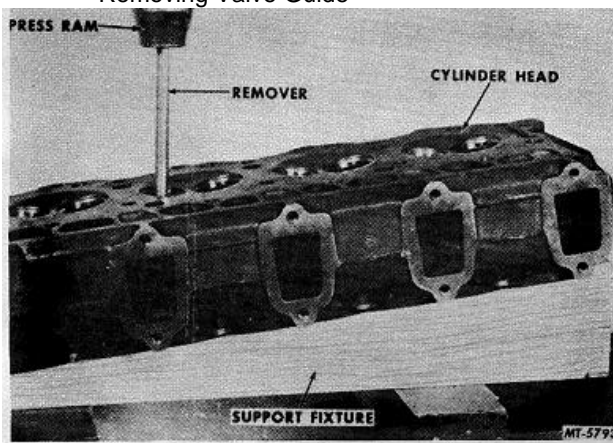

Fig. 127 Removing Valve Guide
1. Remove cylinder head sling and position cylinder head (combustion chamber side up) on support fixture SE-2104 in press bed (Fig. 127). Support fixture is designed to position valve guides vertically under press ram.
2. Using remover tool SE-1722 (Fig. 127) press valve guide from cylinder head. All guides must be pressed out from the combustion chamber side through the top of the head. Fig. 127 Removing Valve Guide